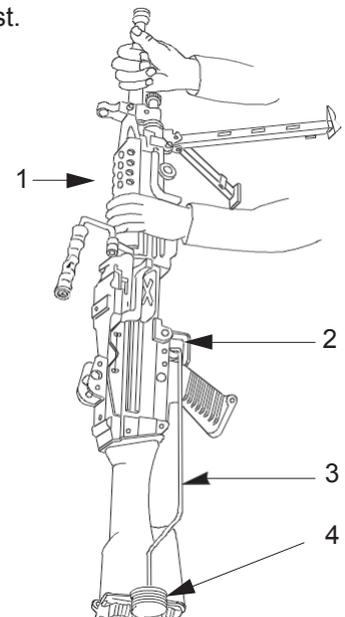

Figure 8. Trigger Pull Verification.
3. Hold machine gun (Figure 8, Item 1) in vertical position. Hook end of test fixture (Figure 8, Item 3) over trigger (Figure 8, Item 2) and slowly raise the machine gun vertically until test weights (Figure 8, Item 4) are suspended. The bolt assembly should not move forward to firing position. If machine gun (Figure 8, Item 1) fails trigger pull test, replace defective parts and repeat test.
4. Remove test fixture (Figure 8, Item 3) and add weights (Figure 8, Item 4) until maximum load of 15.5 lbs (7.03 Kg) is reached. Repeat above procedures. Bolt assembly should move forward to firing position. If machine gun (Figure 8, Item 1) fails trigger pull test, replace defective parts and repeat test.